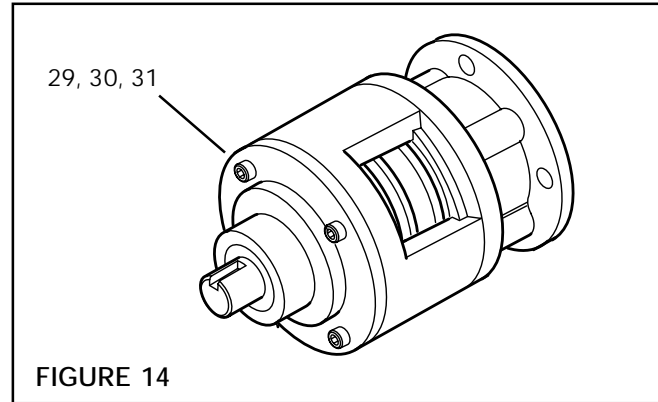

FIGURE 14
1. Remove Socket Head Cap Screws (Item 29), Lockwashers (Item 30), and Nuts (Item 31), then separate Input Unit from FMC (See Fig. 14).